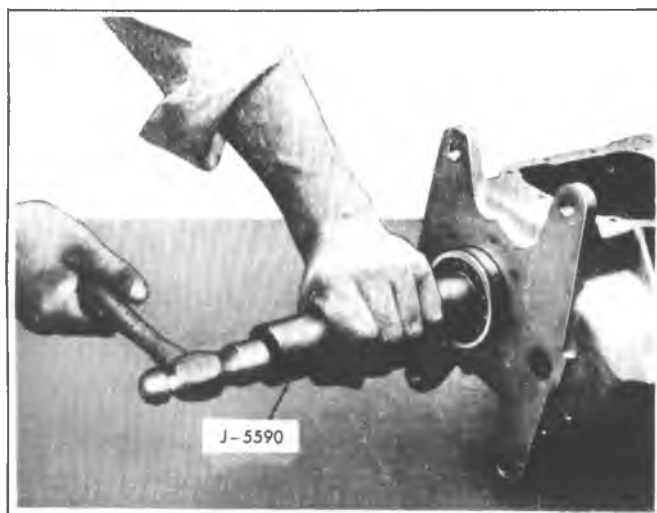

Fig. 7B-23K—Installing Front Main Bearing
4. Using a heavy grease install sixteen (16) roller bearings and washer into main drive gear. Mate main drive gear with mainshaft assembly. Position 3rd-4th clutch sliding sleeve forward. This will provide clearance for installation as well as hold the assembly together.
7. Place bearing snap ring on front main bearing. Position front main bearing to case opening and with a hollow shaft, or tool J-5590, tap bearing into case (Fig. 7B-23K). Install spacer washer and selective fit snap ring to secure main drive bearing.